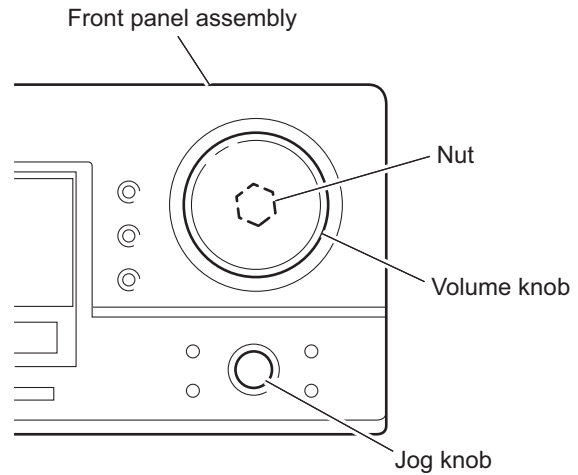

Fig.18
3.16 Removing the system control board and power switch board (See Figs.18 and 19)
- (1) Pull out the volume and jog knobs from the front side of the front panel assembly, remove the nut attaching the system control board. (See Fig.18)